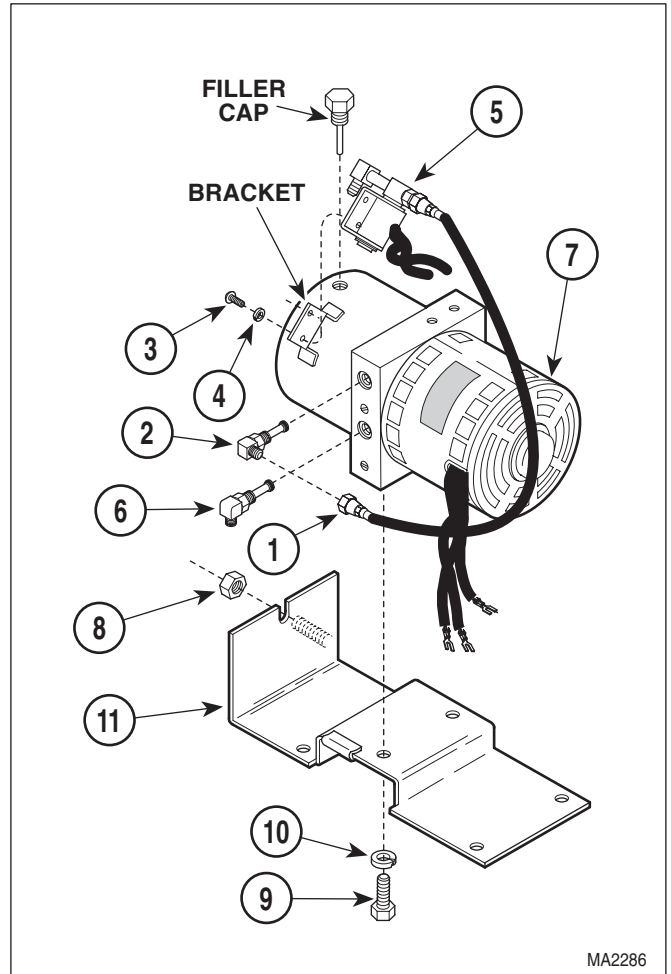

Figure 4-9. Motor Pump Removal / Installation
- (1) Unplug table power cord from outlet.
- (2) Remove motor pump assembly - Complete (Refer to para 4.9).
- (3) Remove filler cap and drain any remaining oil into drain pan (See Figure 4-9).
- (4) Disconnect hose assembly (1, Figure 4-9) from elbow of down functions shuttle valve (2).
- (5) Remove two screws (3), lockwashers (4), and anti-cavitation solenoid valve assembly (5) from bracket.
- (6) Remove down functions shuttle valve (2) and up functions shuttle valve (6) from motor pump (7).
- (7) Loosen outer jam nut (8).
- (8) Remove two screws (9), lockwashers (10), and motor base (11) from motor pump (7).